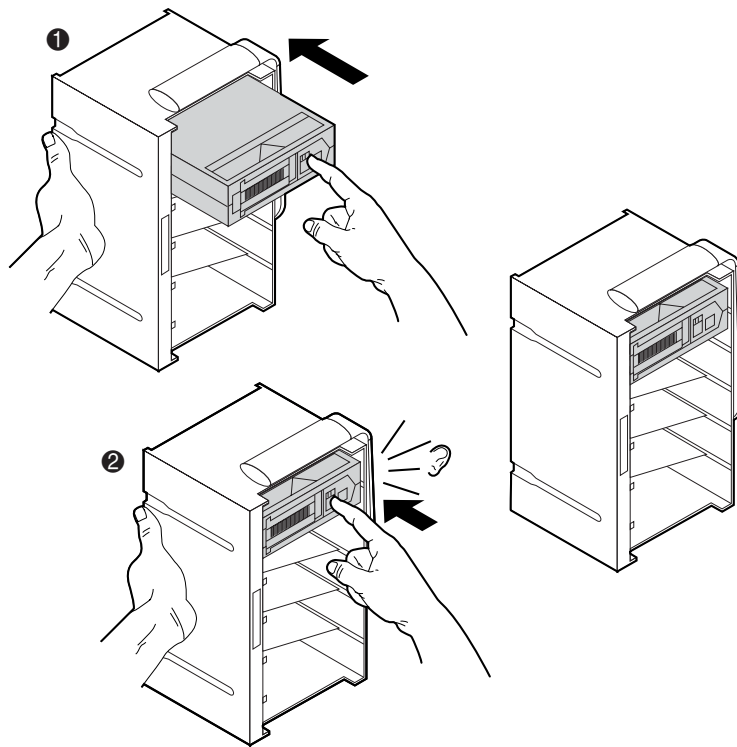

Figure 2-14: Installing a tape cartridge (6-cartridge magazine)
4. With the load port door open, place the tape cartridge in an available shelf bin or load port magazine slot. See Figures 2-14 through 2-18.
1. Insert a tape cartridge into a load pack (❶ Figure 2-14).
2. Push the tape cartridge in until you hear it snap into place (❷ Figure 2-14).